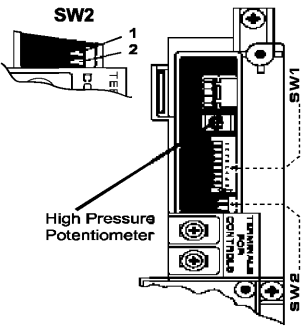

Fig. 1
- Check gas type switches (Fig.1) are in the correct position (dip switch 1 of SW2 'ON' = NG, 'OFF' = LPG)